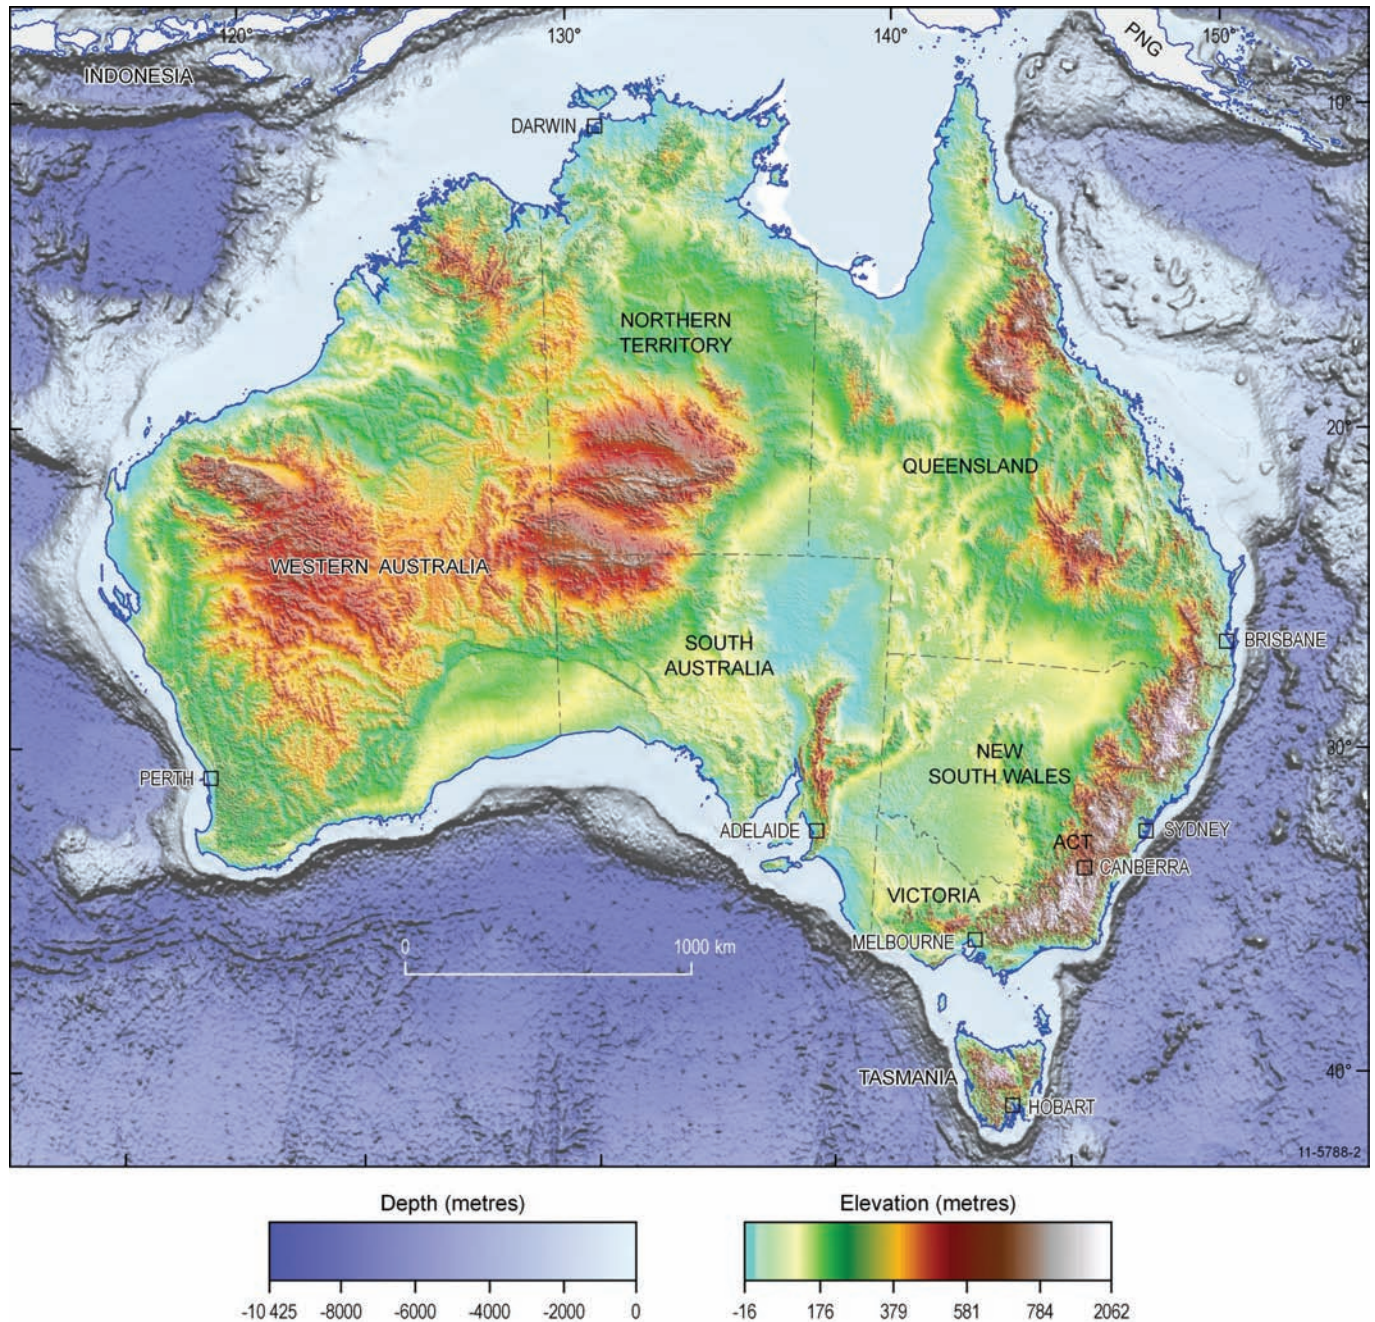

Figure 1. Topography of the Australian continent and bathymetry of the surrounding oceans. The state boundaries and state capitals are also indicated.
Today, the major physiographic features of the Australian continent comprise: (1) a major Western Plateau with localised ranges incorporating most of the Precambrian cratons, (2) the Eastern Uplands with the highest elevations concentrated along the Great Divide with dominantly Phanerozoic rocks and (3) an intervening zone of Interior Lowlands. The topography of the Australian continent is subdued. The highest point on the continent, Mount Kosciuszko, is only 2228 m above sea level, and the lowest point is Lake Eyre at 15 m below sea level. The average elevation is only 330 m, the lowest of any of the continents (Figure 1).
coast and the base of the abyssal plain sometimes reaching within 60 km of the coastline (Figure 1). The conjugate southern margins of Australia along the Great Australian Bight and the Antarctic coast, created by the opening of the Southern Ocean, show somewhat wider continental shelves.